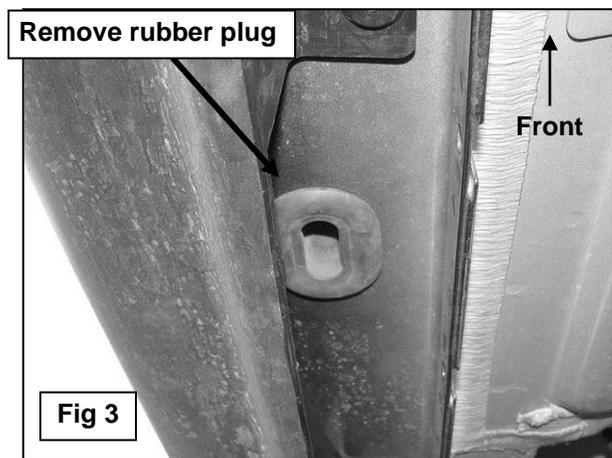

Fig 3
- Starting at the passenger side front, locate the 3 pairs of (2) small holes in the pinch weld, **(Figures 1 & 2)**. Remove the rubber plug filling the oval hole in the bottom of the rocker panel directly in front of the (2) holes, **(Figure 3)**. Select (1) 12mm Bolt Plate and (1) 12mm Plastic Retainer, **(Figure 4A)**. Thread the Retainer part way onto the Bolt Plate. **NOTE:** The Retainer will help hold the Bolt Plate in position during Bracket installation. Insert the Bolt Plate into the hole and rotate 90-degrees to the slot, **(Figures 4B & 5)**. Thread the Retainer down until it is tight against the sheet metal.